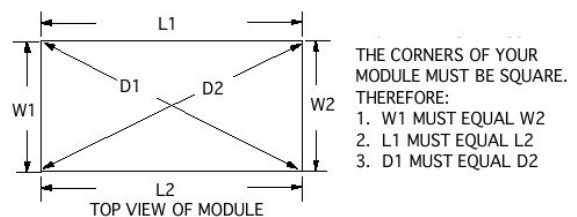

Figure 2: MAKING THE MODULE SQUARE
4. The module frame must be true and square horizontally and vertically. A framing square and the measurements shown in Figure 2 will be used to verify that the frame is square